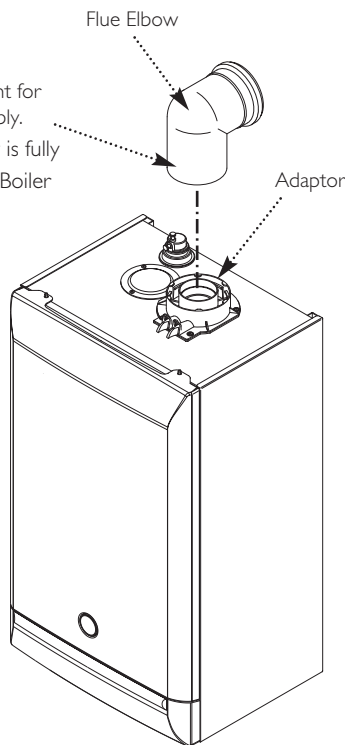

Fig. 41
3. Locate the flue elbow on the adaptor at the top of the boiler. Set the elbow to the required orientation (Fig. 41).
10. Remove the flue elbow and insert the flue through the hole in the wall. Refit the elbow to the boiler adaptor, ensuring that it is pushed fully in (Fig. 41).